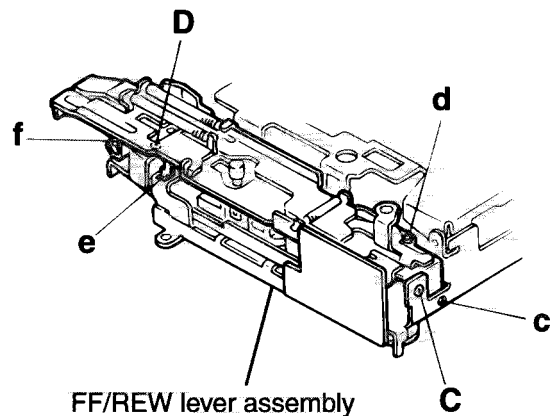

Fig. 6
■ **Removing the FF/REW lever assembly (See Fig. 6)**